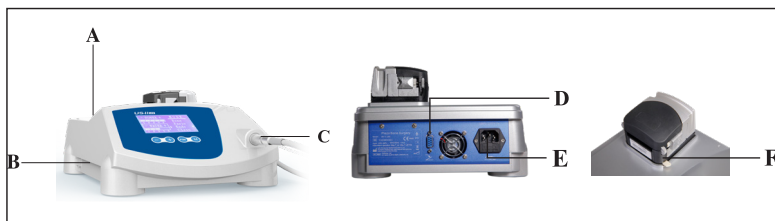
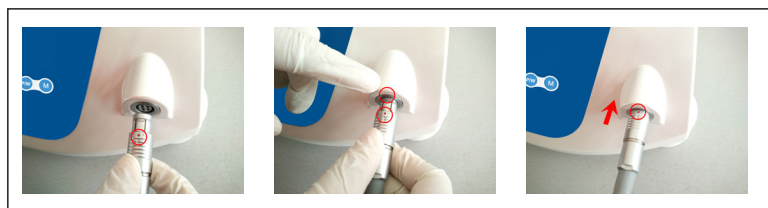

Fig.6
Fig.7
Danger: Do not install the device on or in the vicinity of sources of heat. Install it such a way that there is an adequate circulation of air around it. Leave sufficient free space around it, in particular with reference to the fan on the rear. (Fig.6)
- 6.3.2 Insert the rod for supporting the bag into the holes provided for it (Fig.6—
6.3.3 Connect the footswitch to the casting of the device by inserting the plug into the footswitch socket (Fig.6—Ref.D);
6.3.4 Plug the power cable into the connector on the casting of the device (Fig.6—Ref.E) and then into the power outlet;
6.3.5 Insert the handpiece support into the two holes provided for it (Fig.6—Ref.C);
6.3.11 press the button “on/off” (Fig.6—Ref.B), then can use the device.
7.5.4 Make sure that the US-II (LED) handpiece is correctly connected to the handpiece connector (Fig.6-Ref.C, Fig.7);